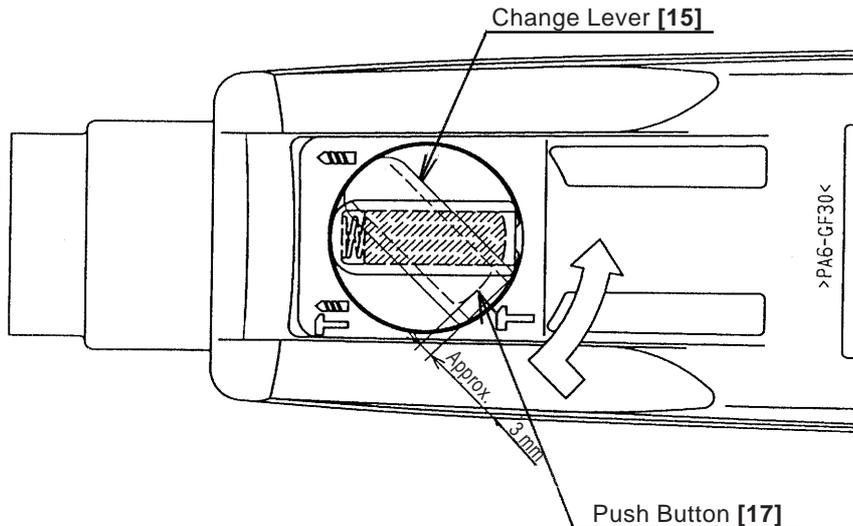

Fig. 3
- As shown in Fig. 3, pressing the Pushing Button [17] hard, turn the Change Lever [15] 45° counterclockwise from the "striking only" position ( T mark). Pry out the Change Lever [15] at this position.